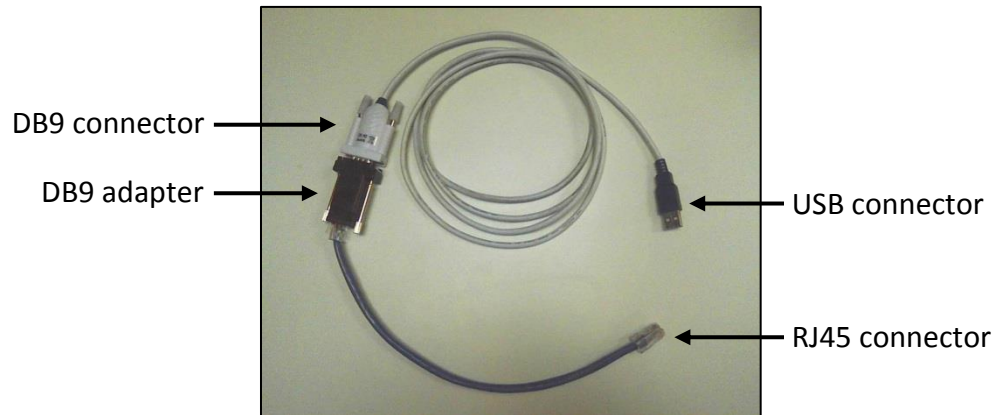

Figure 13 – Assembled Serial Cable
The cabling used to connect to the serial interface on the S320 OCS uses an RJ45 connector, which requires a combination USB-to-DB9, RJ45-to-DB9 adapter cable (Figure 13). Table 5 lists the pinouts for the RJ45 connector used for the S320 OCS's serial interface.
2. Connect the RJ45 end of the assembled serial cable (Figure 13) to the RJ45 connector labeled SERIAL PORT on the center panel (Figure 6) at the bottom of the S320 OCS chassis (Figure 4).